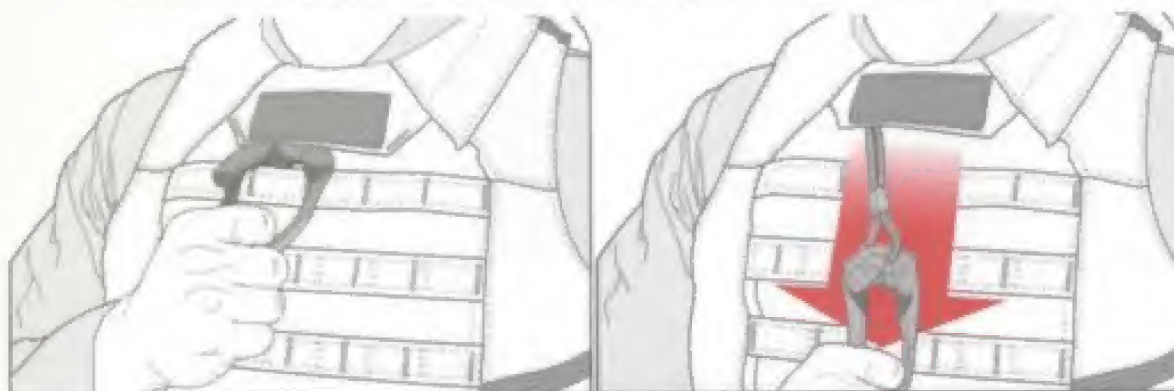

Fig. 18. IOTV Quick-Release process.
1. Grasp the quick-release loop on top center of the Front Carrier and pull as shown in Fig. 18 (STRAIGHT DOWN). The IOTV will separate into front and rear halves.